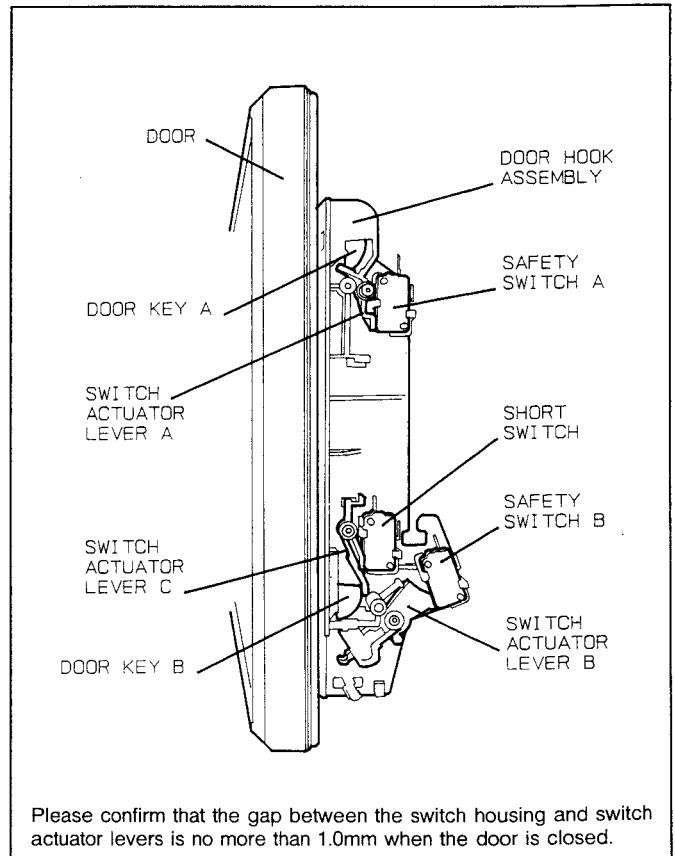

Fig. 37
(A) When mounting the safety switch A, safety switch B and short switch to the door hook assembly, mount the safety switch A, safety switch B and short switch to the door hook assembly as shown in **Fig. 37**.